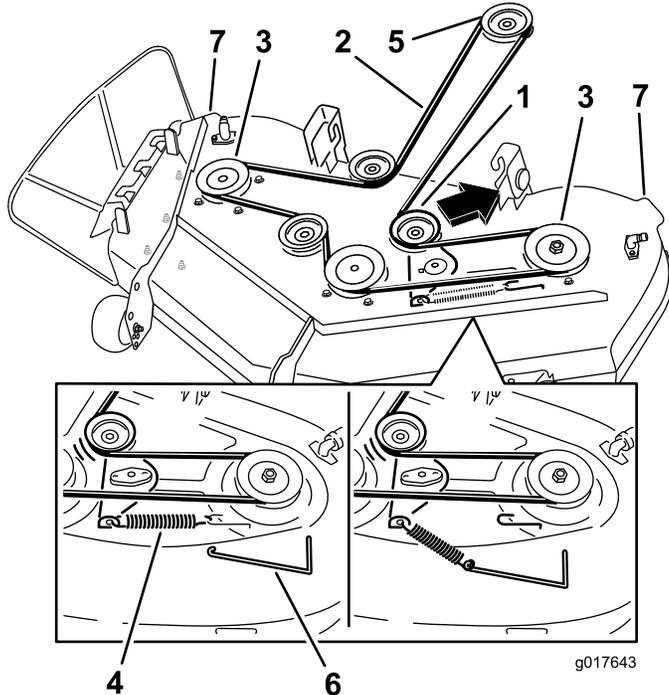

Figure 60
4. Using a spring removal tool, (Toro part no. 92-5771), remove the idler spring from the deck hook to remove tension on the idler pulley and roll the belt off of the pulleys (Figure 60).
5. Route the new belt around the engine pulley and mower pulleys (Figure 60).
6. Using a spring removal tool, (Toro part no. 92-5771), install the idler spring over the deck hook and placing tension on the idler pulley and mower belt (Figure 60).